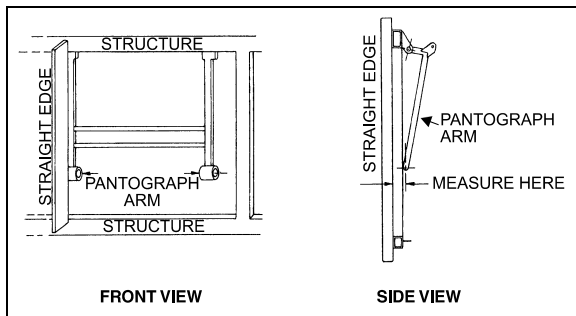
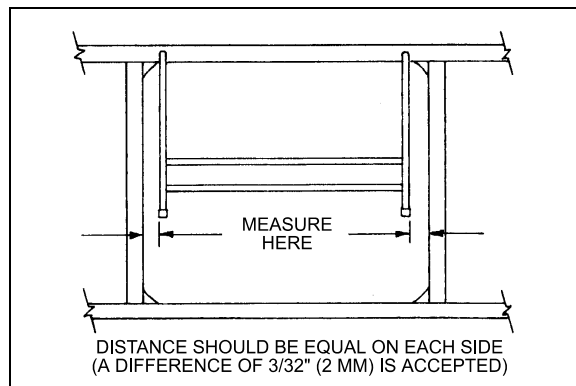

FIGURE 58: PANTOGRAPH DOOR ADJUSTMENT
FIGURE 59: PANTOGRAPH DOOR ADJUSTMENT
Measure distance between a pantograph arm end and a straight edge resting on structure. Repeat procedure for the other arm. The distance on each side should be equal. If not, bend appropriate arm until desired measure is obtained (Figure 58 & Figure 59).
5. When the door is straight, remove the 2x4's and check door operation and fit. A difference of $\frac{3}{32}$ " (2mm) between both sides is accepted (Figure 59).